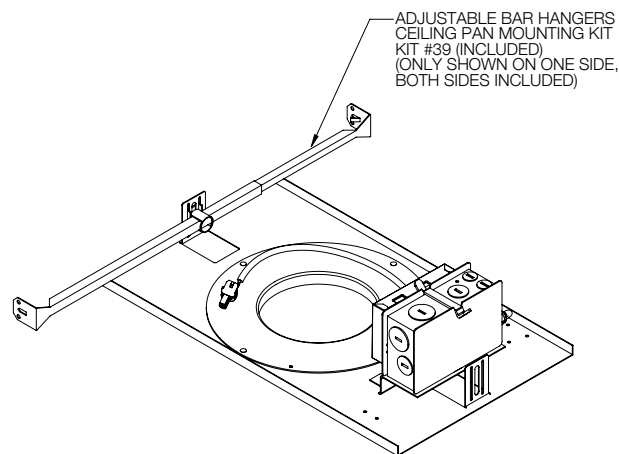

Figure 2:
2. Ensure mounting claws are set to top most position and are turned in towards fixture. Mounting claws are raised and lowered via (2) T10 screws located under faceplate.
4. Push luminaire up into ceiling opening. Use luminaire orientation arrow (Figure 2) to aim light in desired direction and tighten (2) T10 screws to secure luminaire into place.